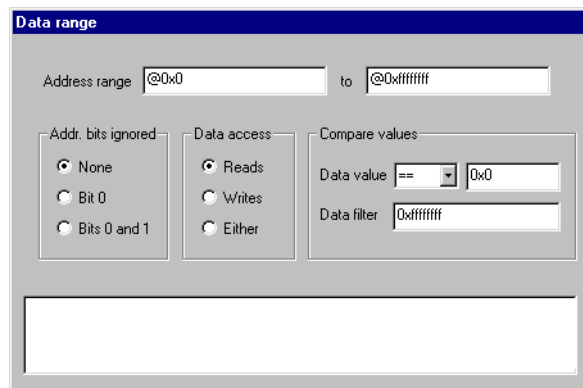

Figure 5-15 Data range dialog box
You can use data ranges when you want to capture data accesses to a range of addresses. Most of the options you configure in the **Data range** dialog box, shown in Figure 5-15, are identical to those found in the **Data point** dialog box. When specifying a data range, the addresses you specify refer to the address of the data access, rather than the address of the instruction making the access.
1. In the Resource selection dialog box, select **Data Range** from the Resource drop-down list. Click **Next>**. The Data range dialog box is displayed, as shown in Figure 5-15.